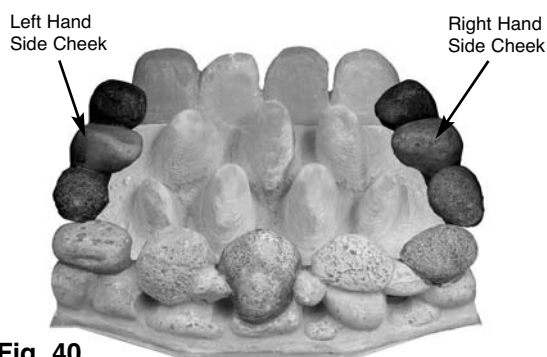

Fig. 40
4. Place the side cheeks into position, making sure they are positioned either side of the fuel bed and the overhang is at the front. The outside edge should be in contact with the radiant box ceramic liner. Ensure that the lower part of the side cheeks sit on the front coal and are in front of the rear coal (Fig. 40).